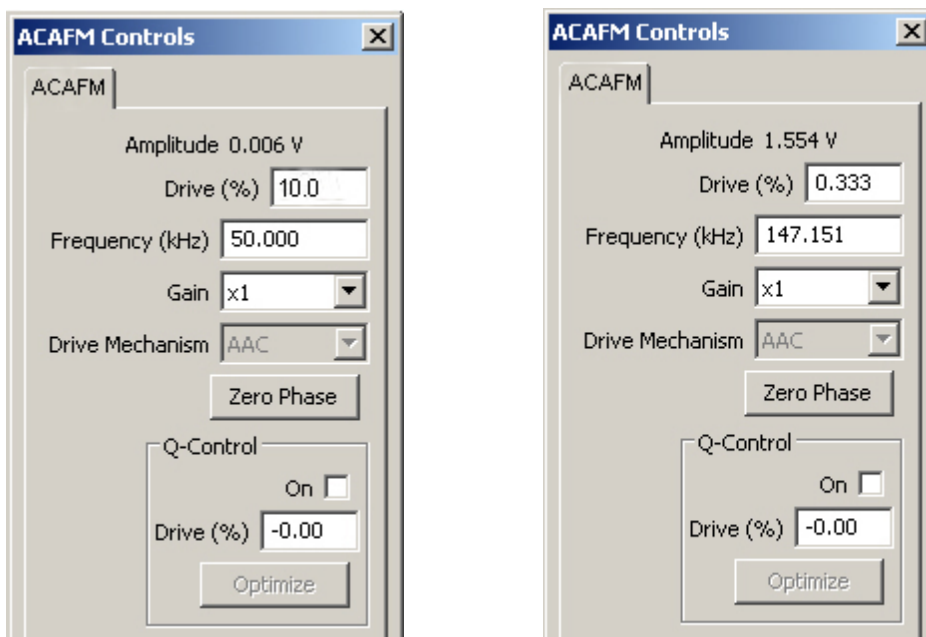

Figure 88 Q Control settings in the ACAFM Controls window before (left) and after (right) Auto Tune
- 1 Adjust the Drive % to **0.2 %** for Lock-in 1 in the upper section of the Main tab the ACAFM Controls window (Figure 88, on left).
- 2 Run a standard AAC Mode **Auto Tune**. This will update the Amplitude, Drive % and Frequency as shown in the ACAFM Controls window on the right in Figure 88.